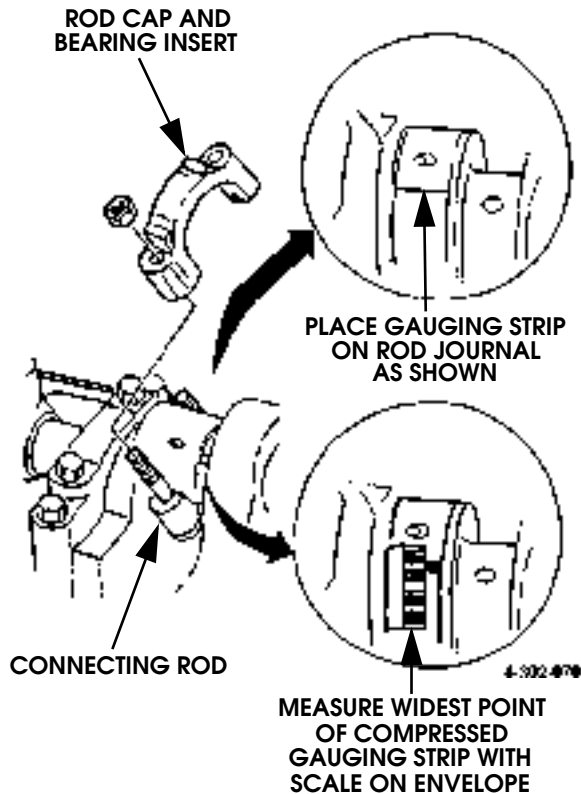

Figure 2-162: Measuring Connecting Rod Bearing Clearance with Plastic Gauging material
- a. Place strip of plastic gauging material on crankshaft rod journal (Figure 2-162).
- c. Remove rod cap and measure gauging material with graduated scale on plastigauge envelope (Figure 2-162). Clearance should be 0.0017-0.0039 in. (0.045-0.100 mm).